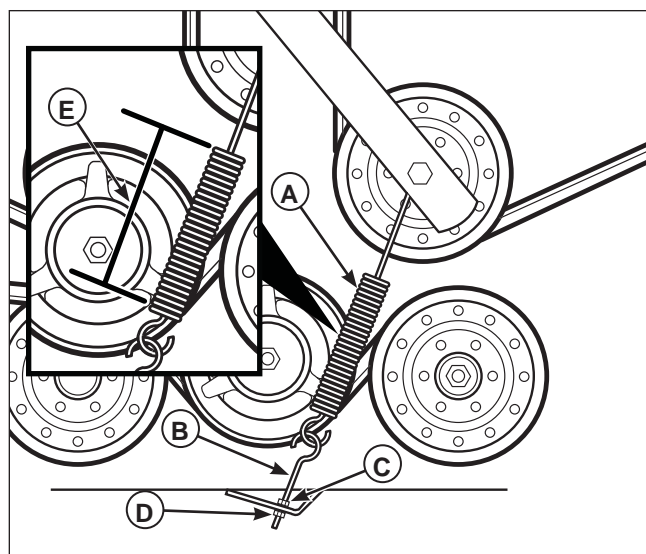

Figure 57. Mower Belt Idler Spring Length
3. Use the Mower Belt Idler Spring Length chart to determine the correct spring length (E, Figure 57).
4. Measure the coil length of the mower belt tensioner spring (A). The measurement should equal the measurement as designated in the chart. If the measurement does not equal the measurement as designated in the chart, adjust the anchor eyebolt (B).